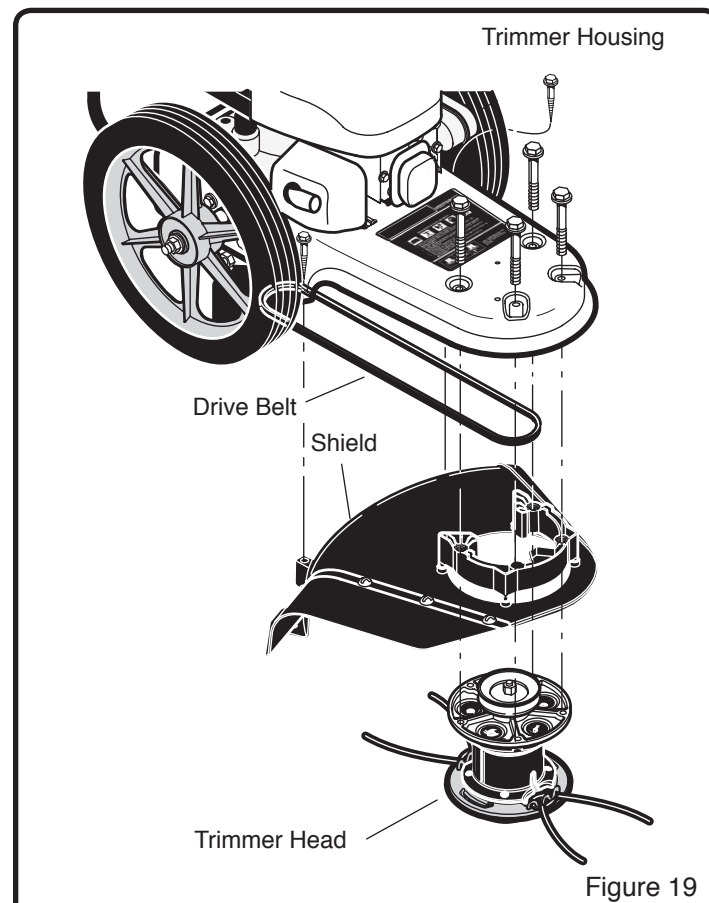

Figure 19
1. Remove the two fasteners that hold the rear of the shield to the trimmer housing. (See Figure 19)
3. Remove the shield and the trimmer head. (See Figure 19).